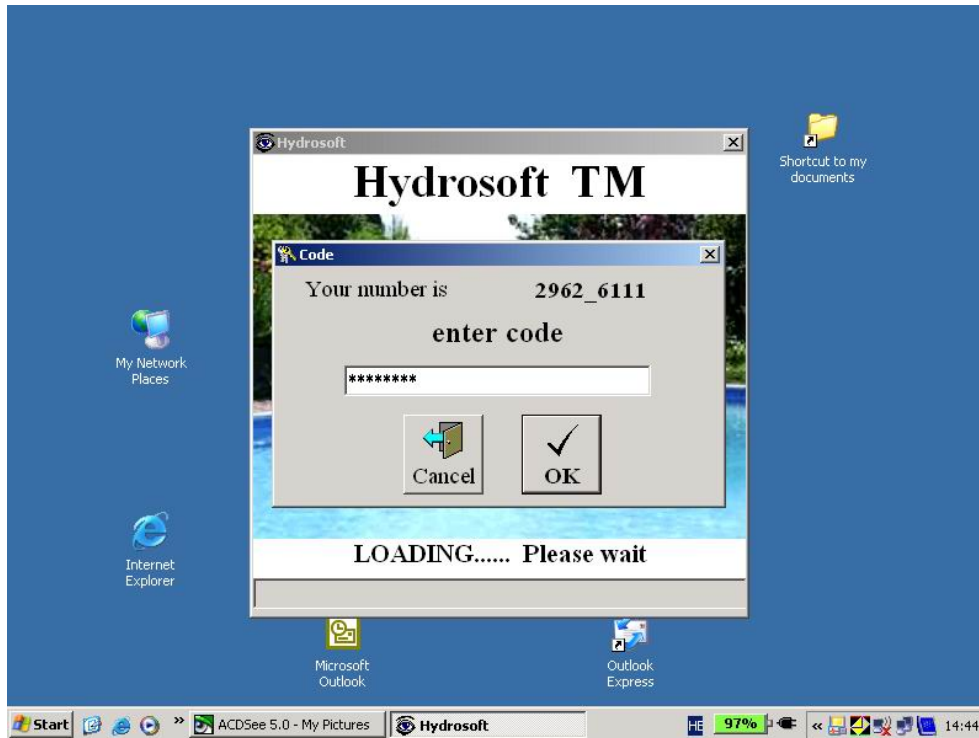

Figure 2: Password Authentication Screen
2. An 8 digit number will appear in the upper, right corner of the window (figure 2)
4. Type the password in the window (as shown in figure 2)